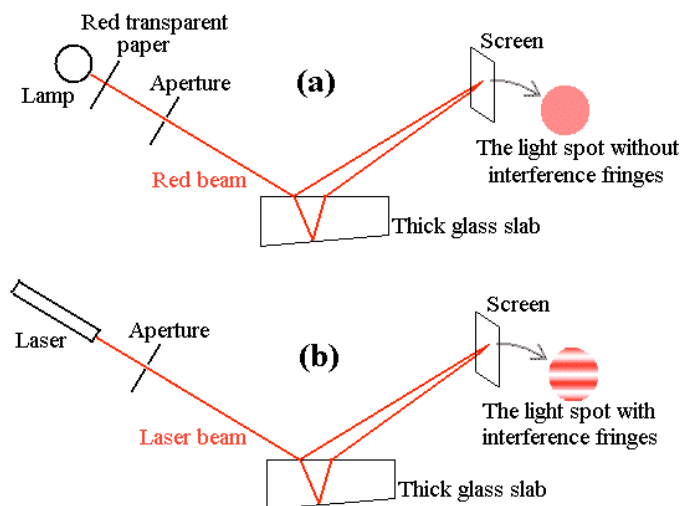

Fig.4
1.1 When a beam of white natural light coming from a lamp and passing through a piece of red transparent paper strikes on a thick glass slab of a thickness about 2 cm, the beams reflected from the top and bottom surfaces of the slab meet at the observation screen, resulting in a light spot on the screen without interference fringes, as shown in Fig.4 (a). However, when a laser beam strikes on the same glass slab, the reflected beams meet at the same observation screen, resulting in a light spot with interference fringes, as shown in Fig. 4(b). What is the reason accounting for these two different phenomena? (choose the correct one)